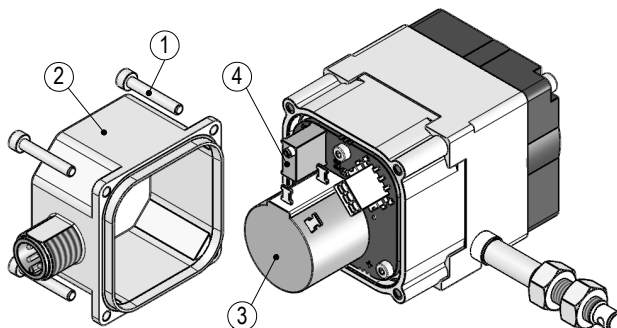

Fig. 14: Adjustment of the trim potentiometer 0/10V
By means of the trim potentiometer Pe (4) (see Fig. 14), this value can be adjusted to the actual final position of the application.